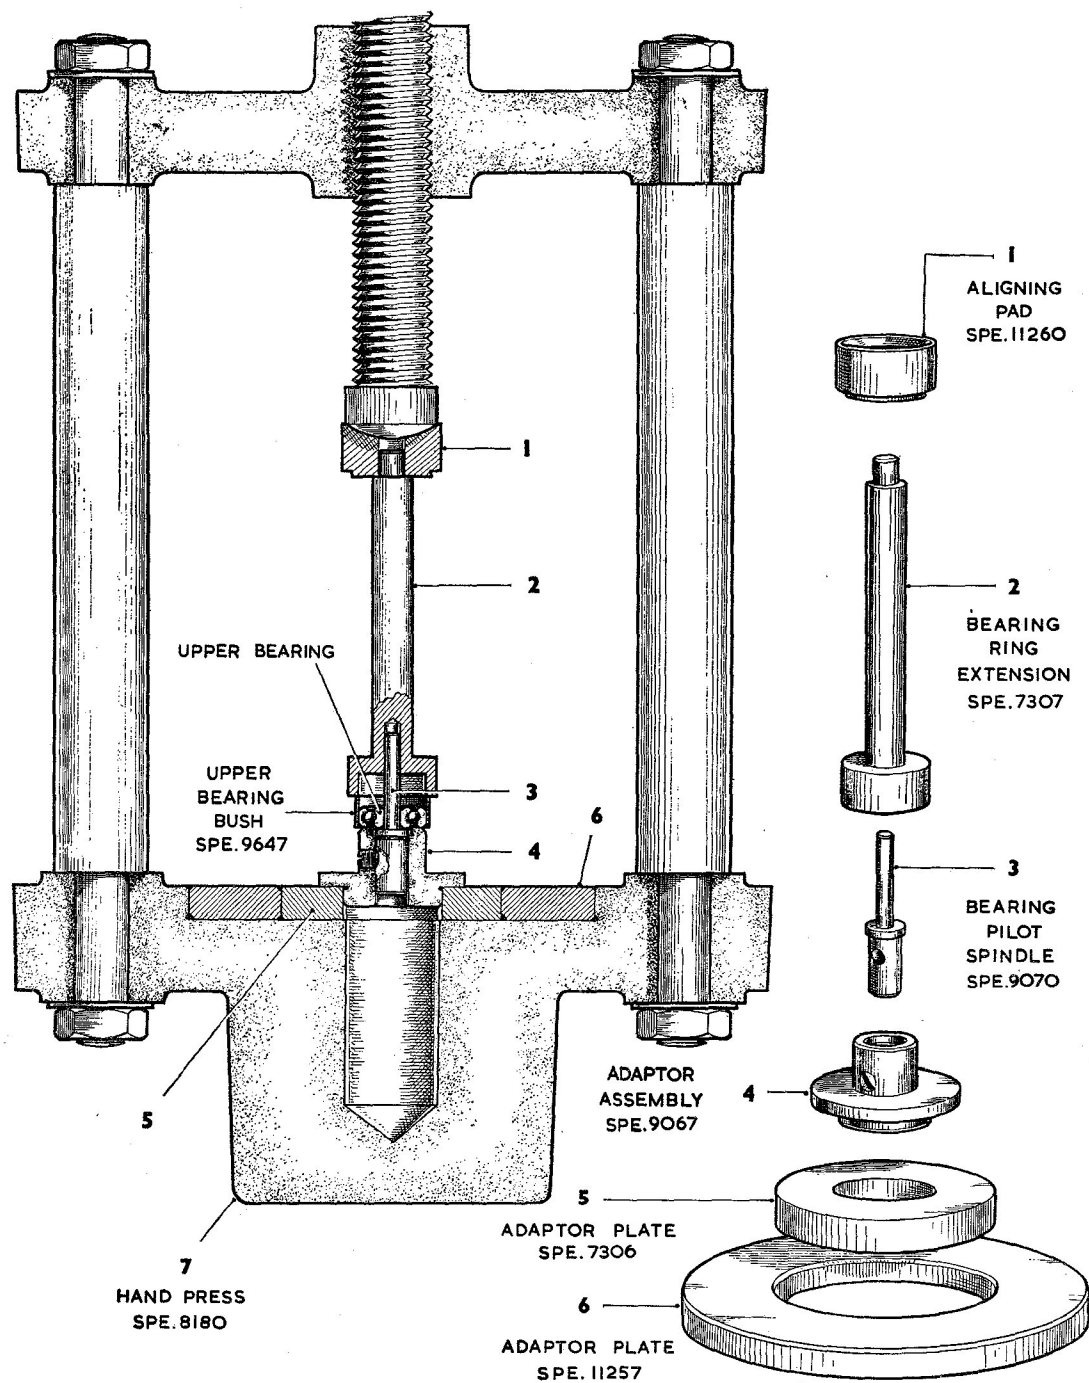
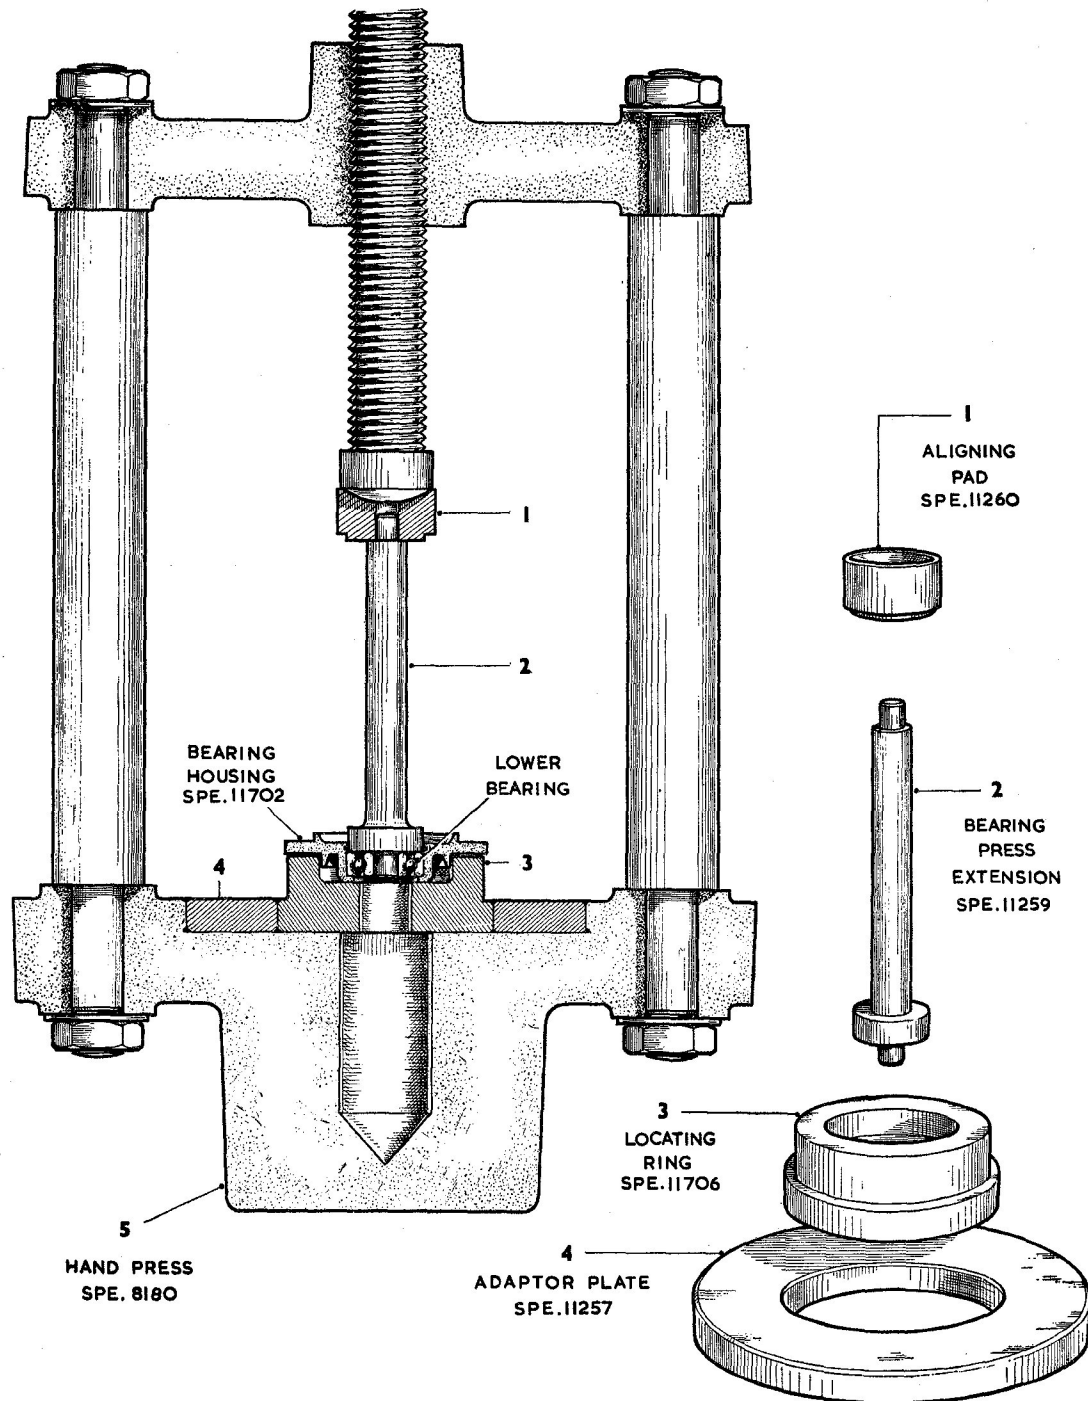

Fig. 4. Tools for sleeving upper bearing
Fig. 5. Tools for replacing of lower bearing
28. It is important that, should it be necessary to re-sleeve the upper bearing, the tools shown in fig. 4 are used, mounted in the hand press. When replacing the lower bearing use the tools illustrated in fig. 5.
33. Press the lower (impeller end) bearing into the bearing housing using the tools shown in fig. 5. Insert the bearing dust shield with the outer flange flush against the bearing, securing it in position with the bearing circlip.
34. To replace the upper (commutator end) bearing, first press it into the bearing bush using the tool shown in fig. 4. Insert the bearing and bush assembly into the motor casing from the front so that the two ears on the bush locate in the slots in the casting and lock the assembly.